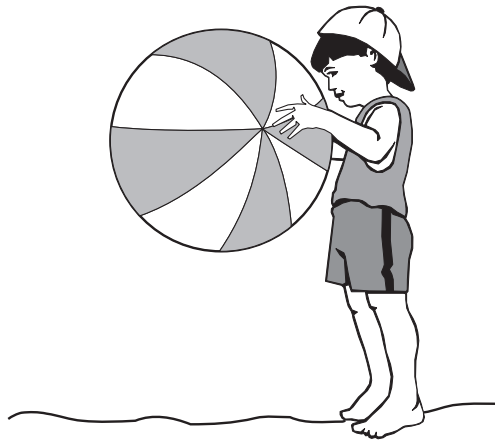

Fig. 3
- 7 Give **two** reasons why PVC plastic would be a suitable material for the beach ball shown in Fig. 3. [2]